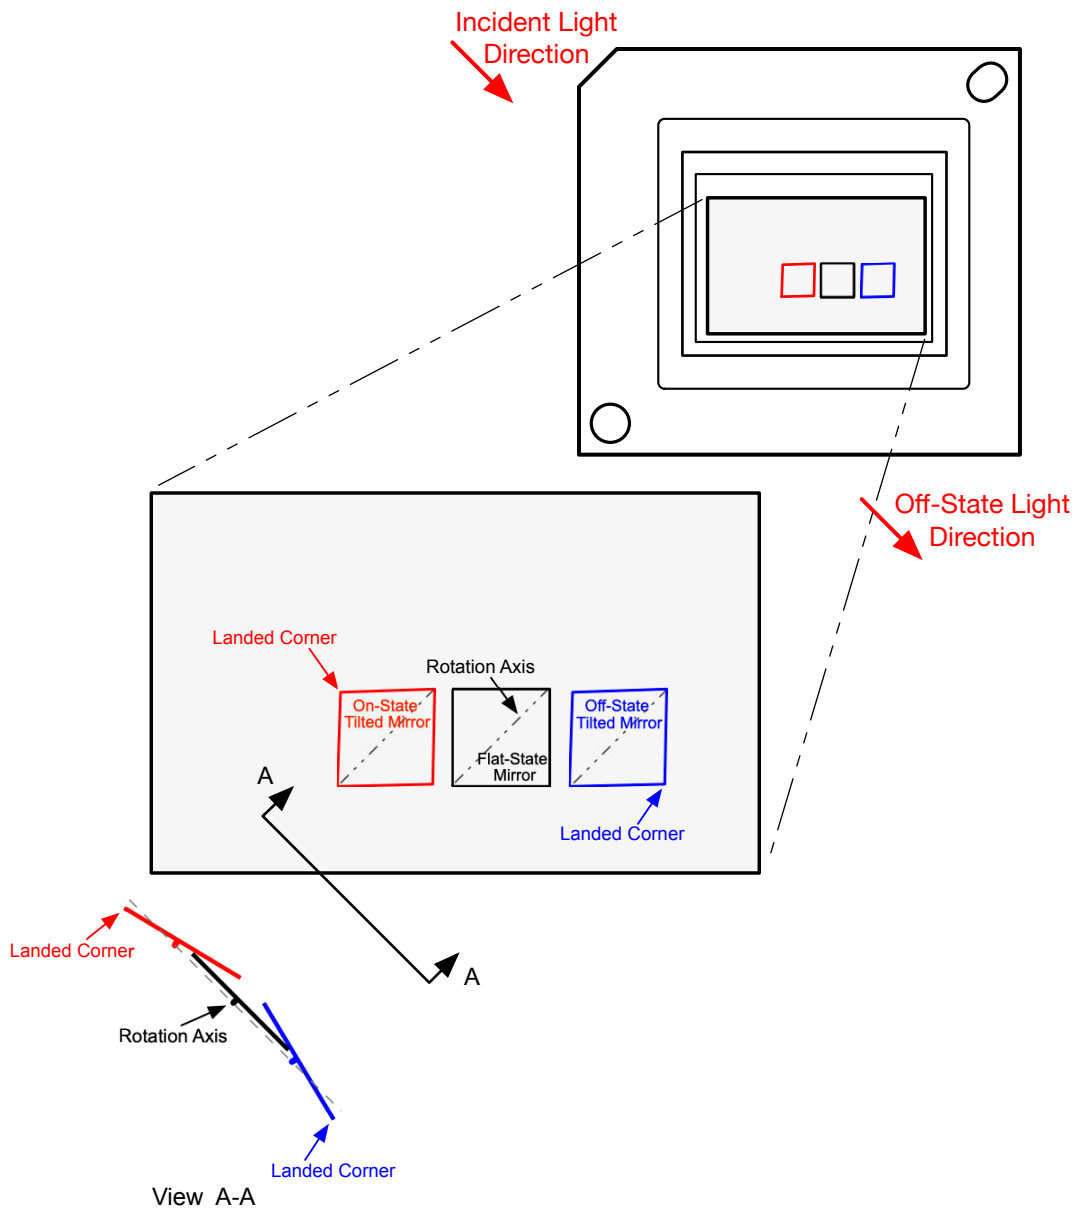

Figure 6-11. Micromirror Landed Orientation and Tilt
- (1) Measured relative to the plane formed by the overall micromirror array.
- (2) Additional variation exists between the micromirror array and the package datums.
- (3) Represents the variation that can occur between any two individual micromirrors, located on the same device or located on different devices.
- (4) For some applications, it is critical to account for the micromirror tilt angle variation in the overall system optical design. With some system optical designs, the micromirror tilt angle variation within a device may result in perceivable non-uniformities in the light field reflected from the micromirror array. With some system optical designs, the micromirror tilt angle variation between devices may result in colorimetry variations, system efficiency variations or system contrast variations.
- (5) Refer to Figure 6-11.
- (6) The time required for a micromirror to nominally transition from one landed state to the opposite landed state.
- (7) The minimum time between successive transitions of a micromirror.
- (8) Conditions of Acceptance: all DMD image performance returns are evaluated using the following projected image test conditions:
- (9) Bright pixel definition: a single pixel or mirror that is stuck in the ON position and is visibly brighter than the surrounding pixels